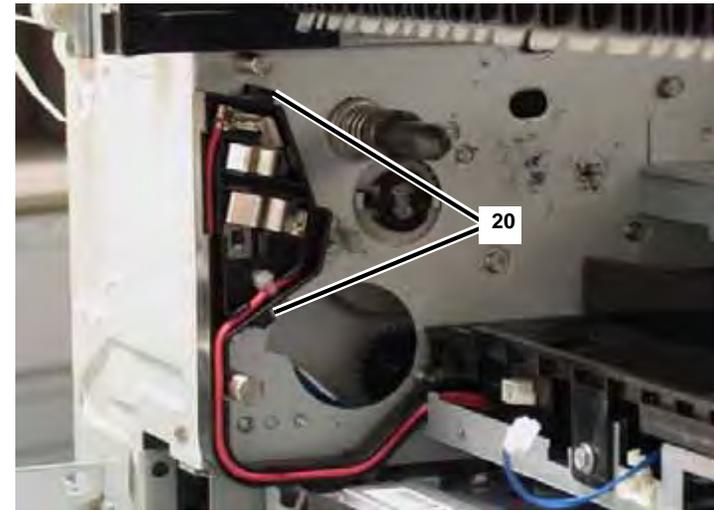

Figure 18 Removal
20. Release the BTR Contact Cover from the frame (2 locking tabs) (Figure 18).